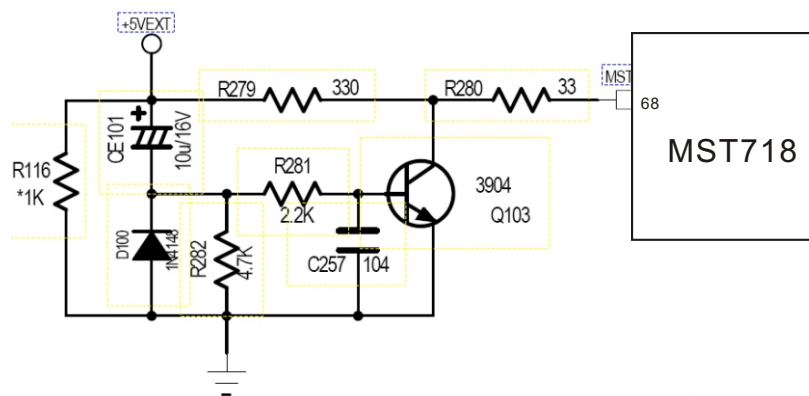

Figure 3.2.1.1 System reset circuit diagram
(1) system reset circuit is shown in the figure 3.2.1.1: